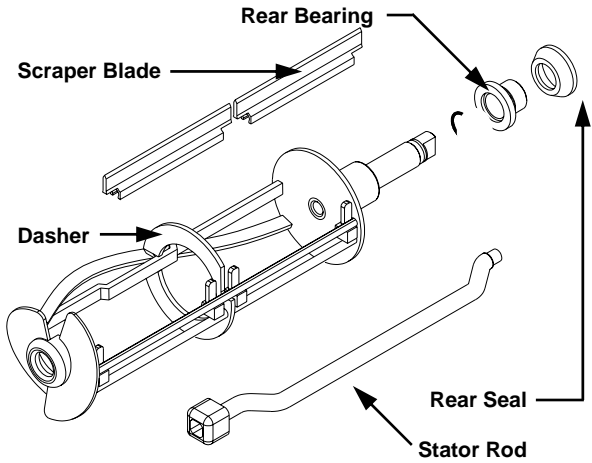

Fig. 8
9. Remove the dasher assembly (Fig. 8) being careful not to damage the scraper blades, then disassemble in the following manner: